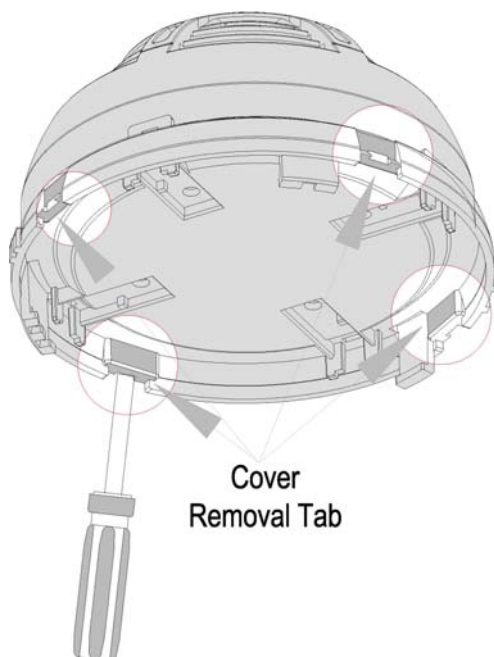

Figure 11
1. Remove the detector cover by sponging away the four sides tabs using a flat screw driver and then pulling the cover from the base. (Figure 11)